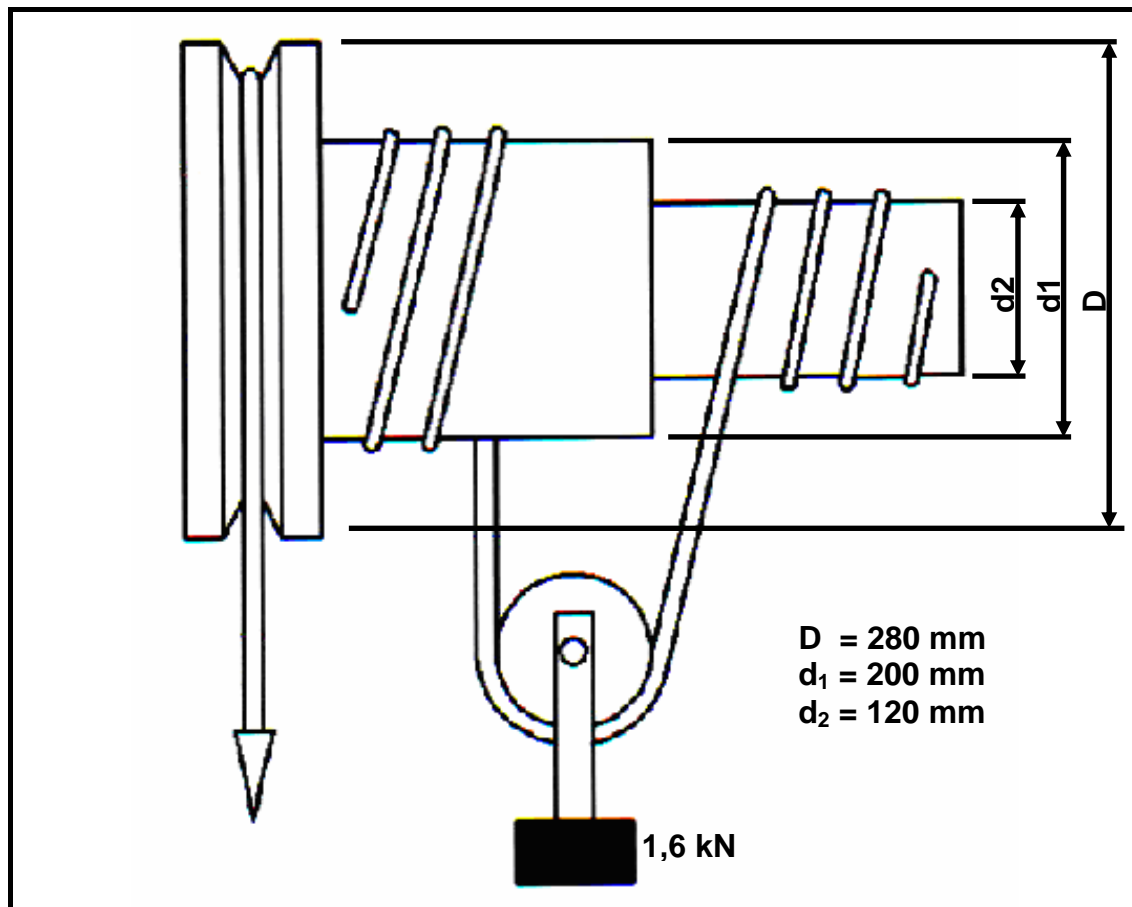

FIGURE 6.3
- 6.4 A differential wheel-and-axle lifting machine shown in FIGURE 6.3 has a mechanical advantage of 4. A load of 1,6 kN is lifted when an effort is applied. The diameters of the pulleys are 280 mm, 200 mm and 120 mm respectively.